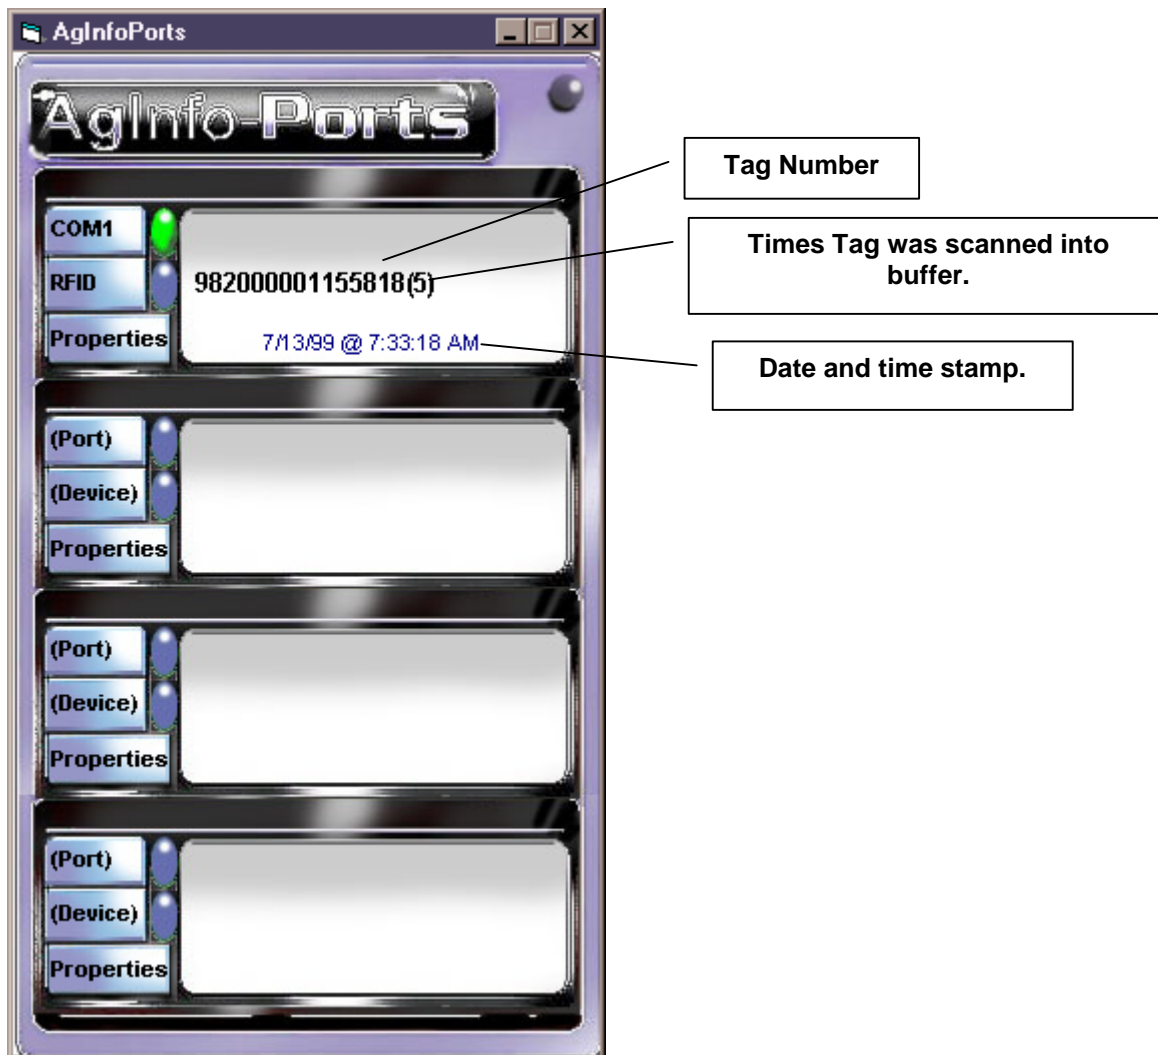

Figure 21
- You can verify that the Tag Tracker is functioning correctly by exiting the 'port buffer' window and returning to main screen. Here you will see the green light on COM1 flickering and number in the port window followed by a number in parentheses. [see figure 21]